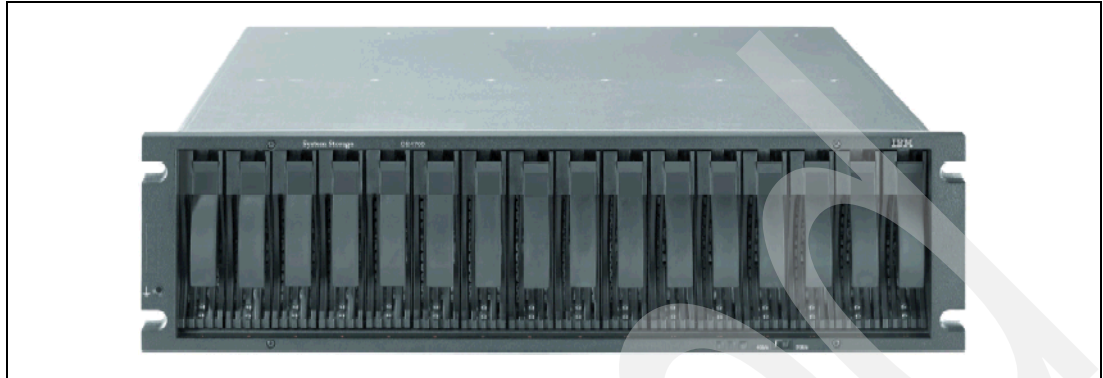

Figure 2-5 DS4700 front view
Figure 2-5 shows the front section of the DS4700 with the 16 pre-installed drive bays of hot-swap disk drives. The DS4700 supports an intermix of Fibre Channel (FC) or SATA drives in the same or different enclosures.